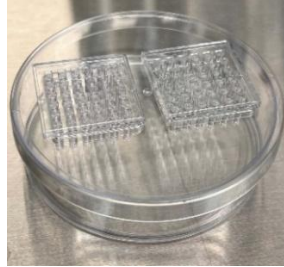

Figure 1. Hydration of the pillar plate surface in a 90 x 15 mm petri dish with 500 μL of sterile, distilled water to minimize air bubble entrapment.
- Hydrate the surface of the pillar plate by inserting two 36PillarPlates in the 36PetriLid on a 90 x 15 mm petri dish containing 500 μL of sterile, distilled water and placing it in a 5% CO_2 incubator at 37°C for 20 - 30 minutes (**Fig. 1**).